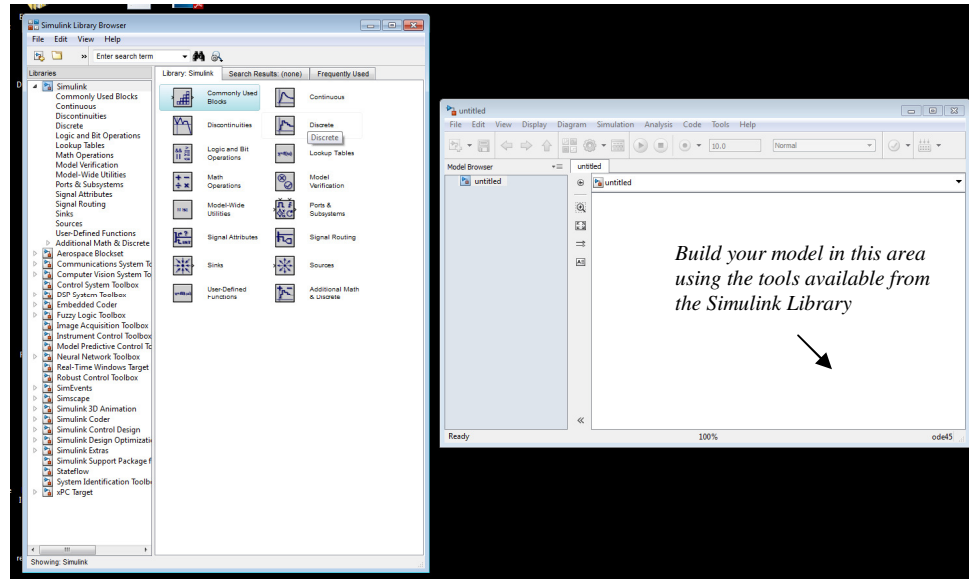
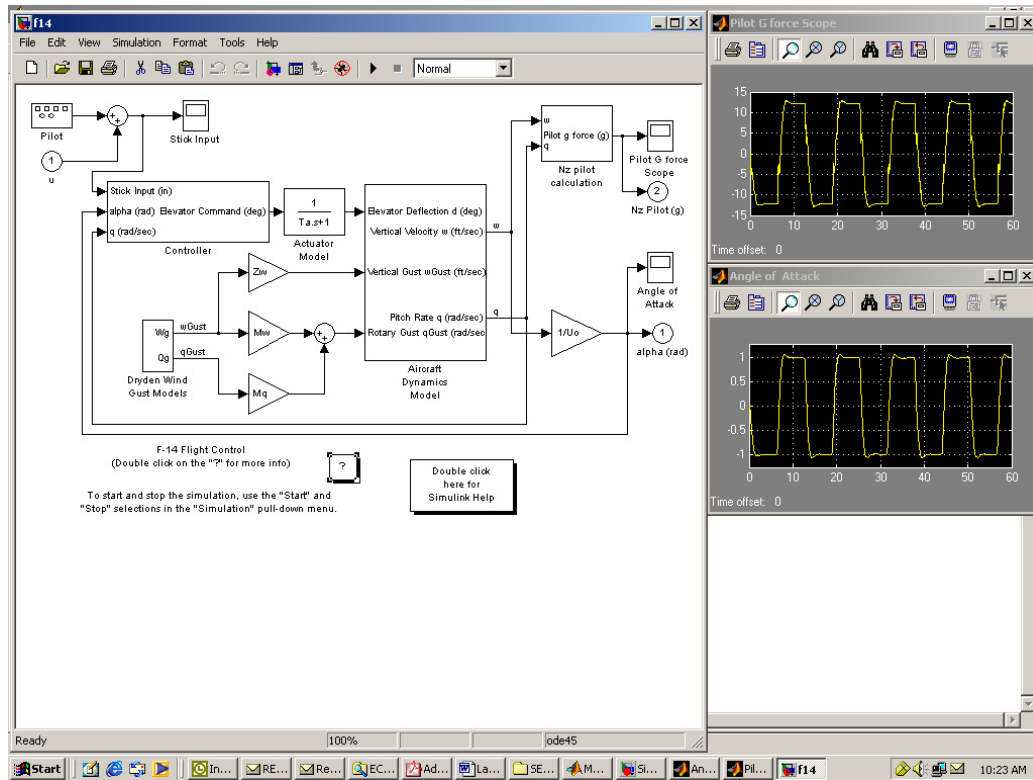

Figure 3. Simulink Model Window with Untitled Workspace for Building a New Model.
Figure 4. Existing Simulink Model, demo – f14.mdl
2.1.3 Open an existing model or create a new one. To create a new model, select File→New→Model, and new model window will appear as shown in Figure 3. An existing model will look like Figure 4.